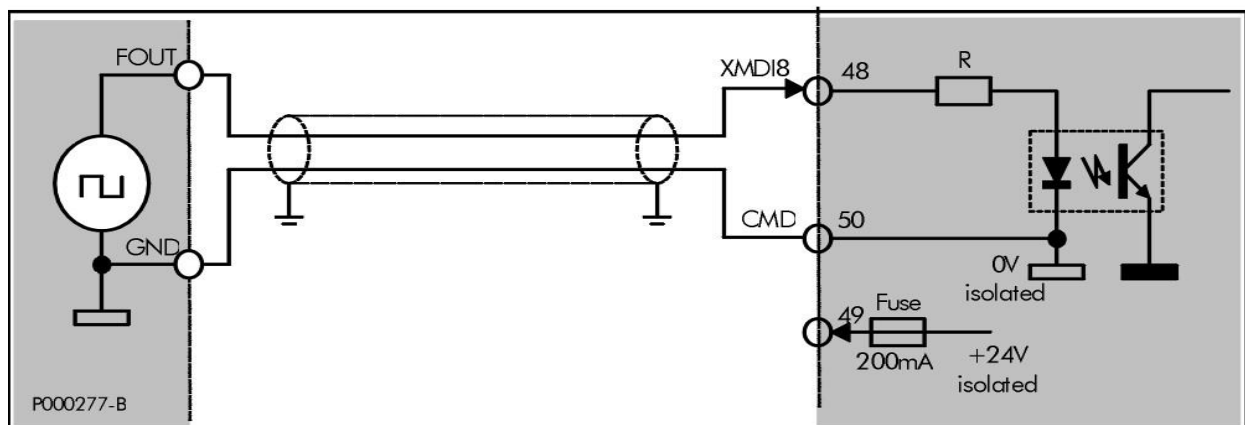

Figure 133: Signal sent from a 24V, Push-pull frequency output
Signals are sent from a 24V Push-pull output with a reference common to terminal CMD (50), as shown in Figure 133).